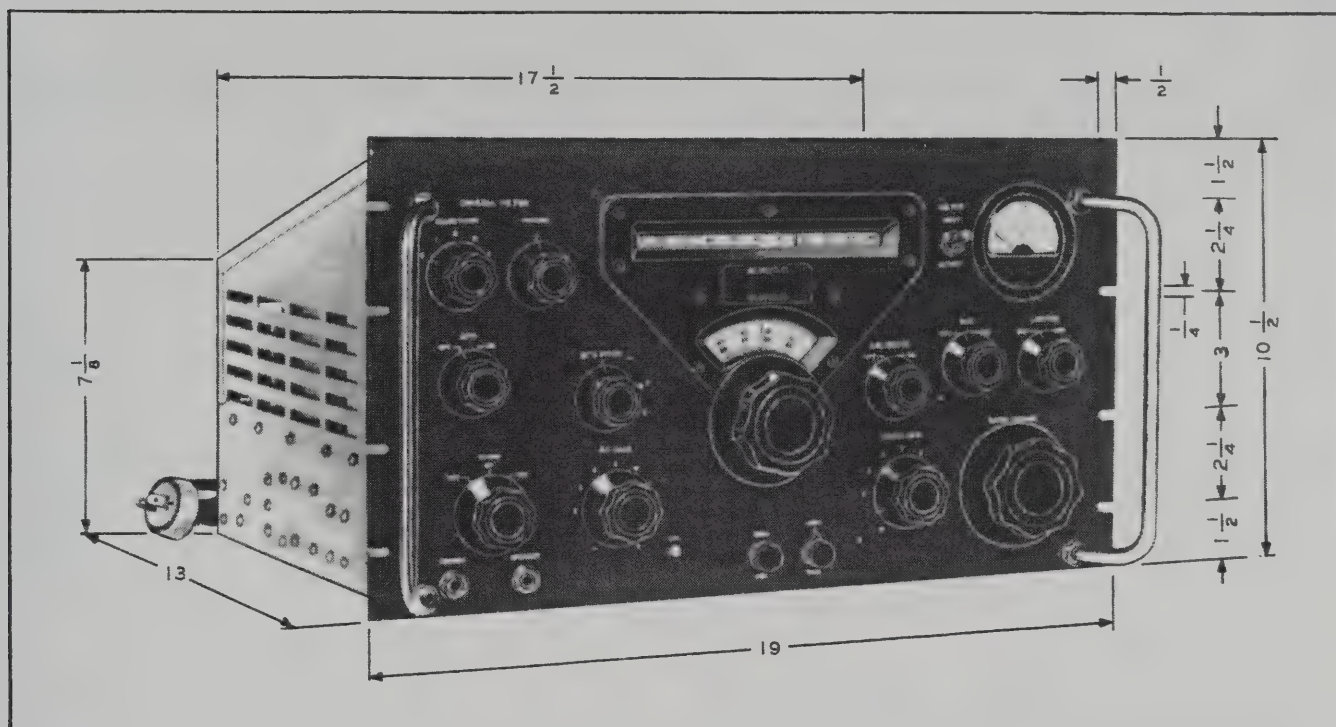

Figure 2-1. 51J-4 Mounting Dimensions
2.2.1. GENERAL. - The receiver should be mounted in a standard rack. Outline and mounting dimensions are given in figure 2-1. The front panel is slotted for mounting at 1-1/2, 3-3/4, 6-3/4 and 9 inches from the bottom. Panel height is 10-1/2 inches and panel width is 19 inches.